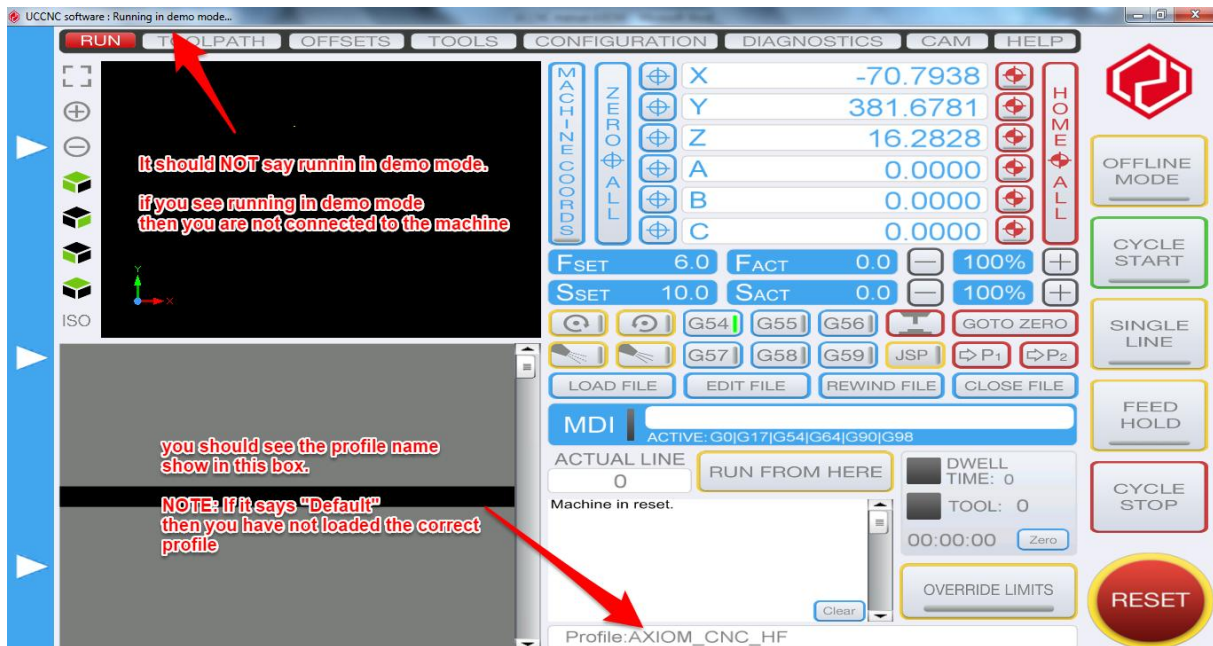

Figure 29: UCCNC main screen summary
- Figure 29 shows the main screen once you open the UCCNC controller.